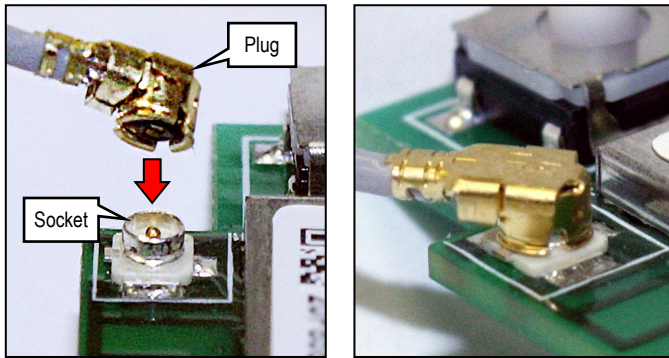

Fig. 4: Antenna Wire Plug and Socket
8. **With the ISEC-WIFI PC board in hand**, connect the small **Antenna Board plug** to the ISEC-WIFI module socket (see Fig. 4).